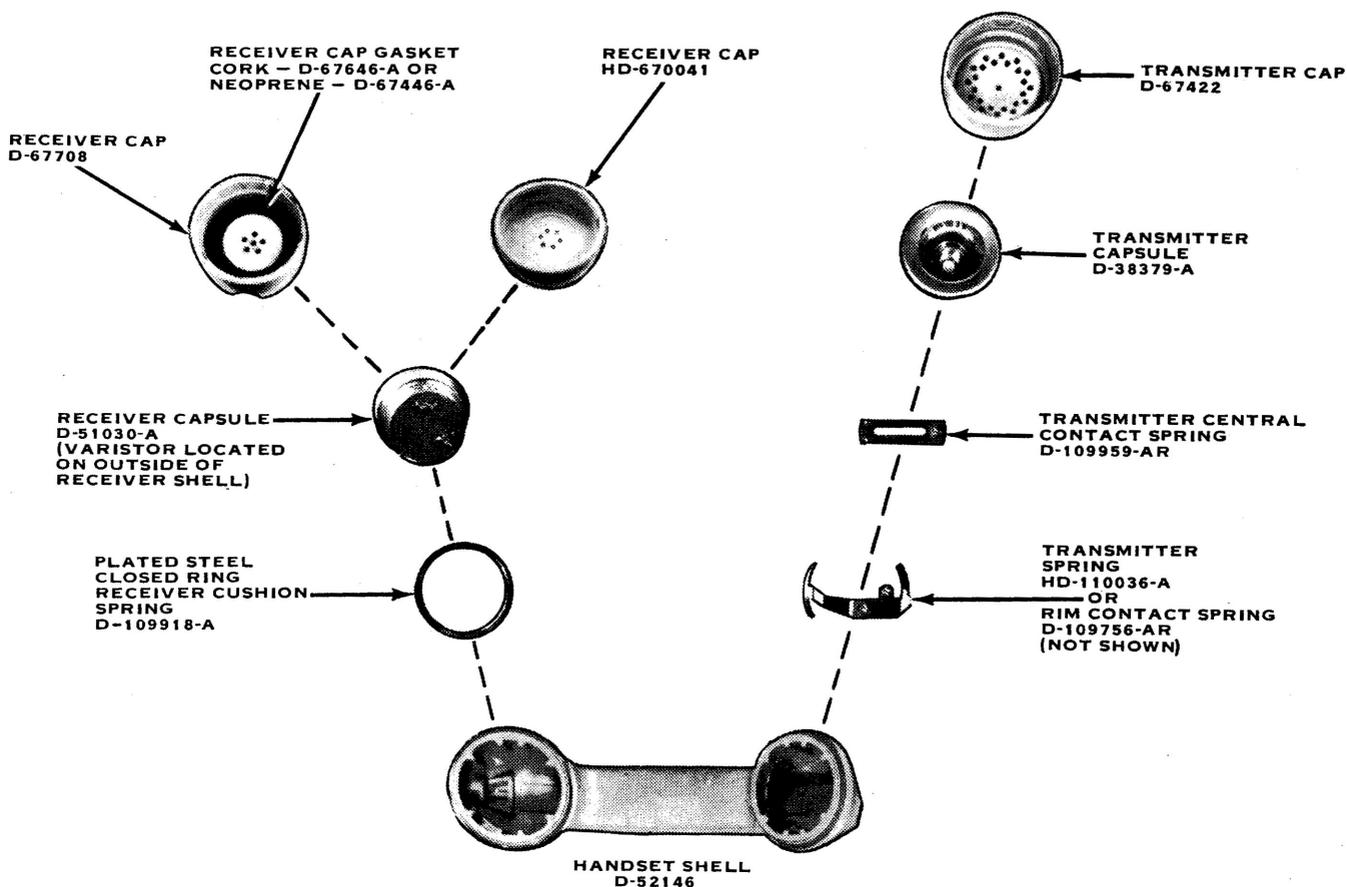

Figure 3. Type 810 and 811 Handset Components.
2.06 The molded components of the Type 810 handset (shown in Figure 3) were originally manufactured in black phenolic and either colored butyrate or propionate. In both versions, the transmitter cap and handset handle (shell) were duplicates of the Type 81 handset. The receiver cap, however, was provided with larger holes and a cork gasket with a larger inner diameter of 1-9/32 inches that was used on the black receiver cap as well as colored receiver caps.
2.10 The molded components of the Type 811 handset (shown in Figure 3), are the same as those of the final version of the Type 810 handset except for the receiver unit. The receiver unit of the Type 810 handset incorporates a silicon varistor, and the sound opening is covered by a cloth baffle in addition to an outer membrane of clear polyester film. The Type 811 handset receiver unit is externally the same as the Type 810 handset receiver unit except the perforated metal grid is clearly visible because the cloth baffle is eliminated.
3.05 To order replacement parts for the Type 81 handset, refer to Figure 2. Refer to Figure 3 for the Type 810 and 811 handsets. To order replacement parts for the L-9080 and L-9081 handsets, refer to Figure 4.